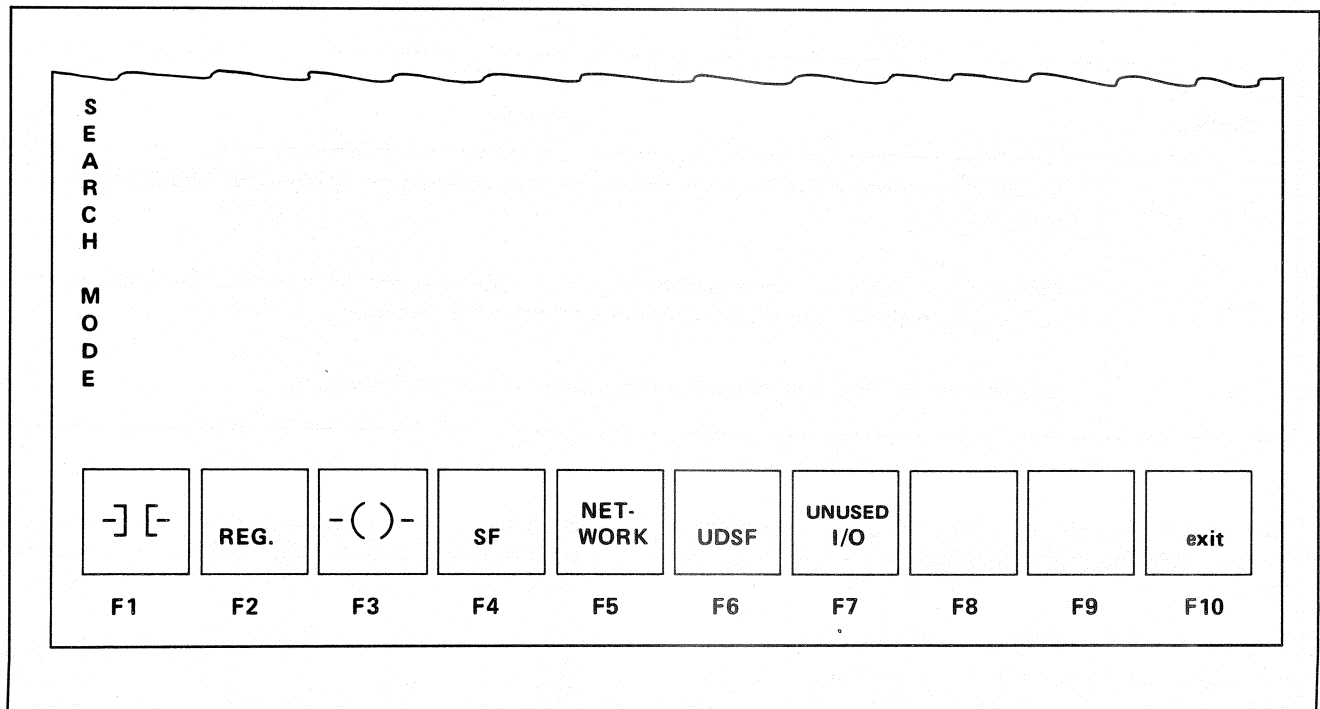
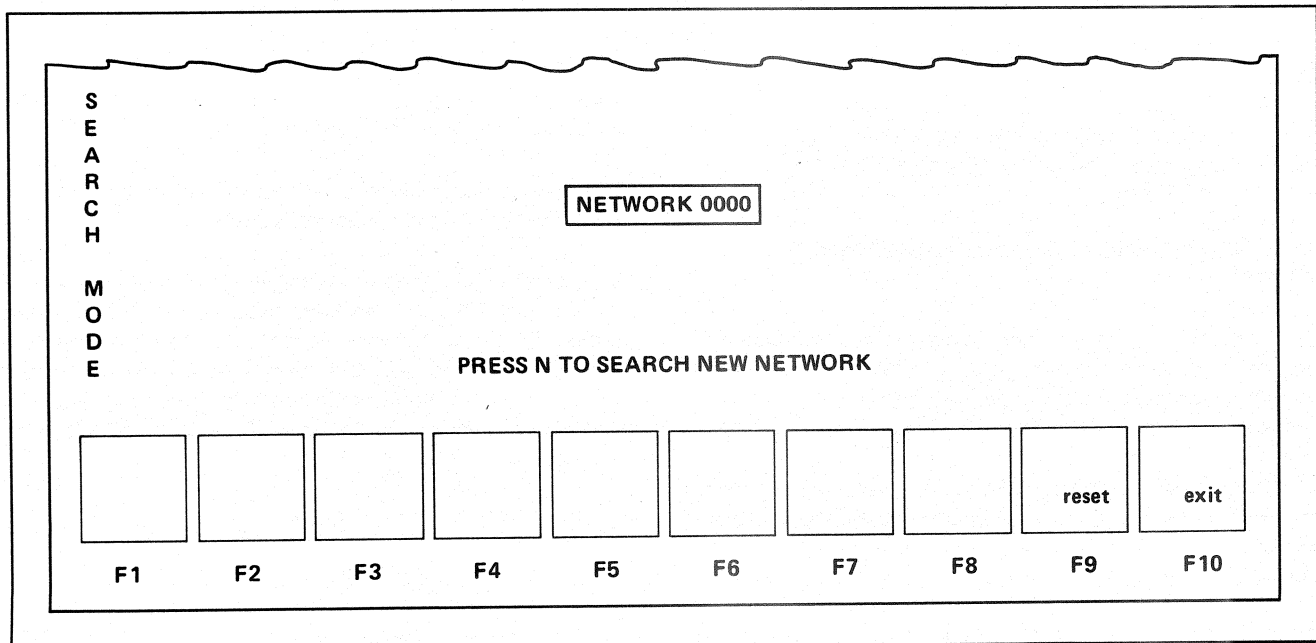

Figure 11-1. Search Function's Primary Screen
Figure 11-6. Network Search Screen
1. The Search function's primary screen provides the F1 thru F7 selections. (See Figure 11-1.)
4. To initiate the Search function and display the screen shown in Figure 11-1:
The following procedure describes how to search for a contact when the Search function has been initiated and the screen shown in Figure 11-1 is displayed:
The following procedure describes how to search for a specified register or IG/OG group when the Search function's primary screen, shown in Figure 11-1, is displayed.
The following sequence describes how to search for a coil when the Search function is initiated and the screen, shown in Figure 11-1, is displayed.
The following procedure searches for selected programmable functions when the Search function has been initiated and the screen, shown in Figure 11-1, is displayed:
The following procedure describes how to search for a specific network number when the Search function has been initiated and the screen, shown in Figure 11-1, is displayed:
**Step 1** – Press the F5, NETWORK, function key—shown in Figure 11-1—to display the screen shown in Figure 11-6.
The following procedure describes how to search for a specific user-defined special function subroutine when the Search function has been initiated and the screen, shown in Figure 11-1, is displayed: